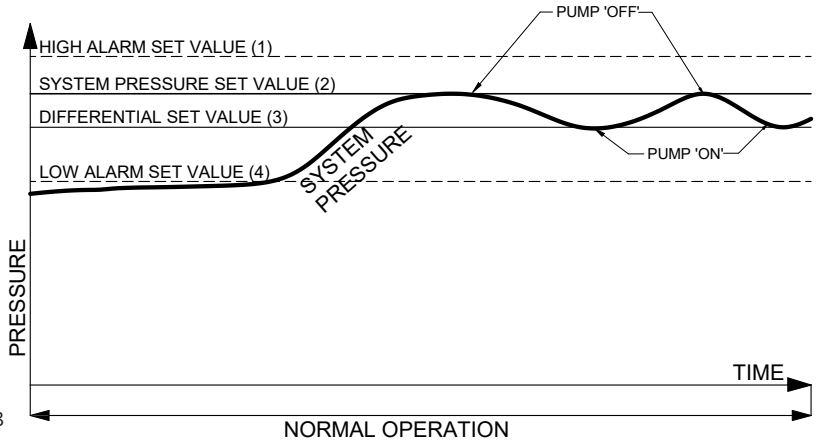

Fig. 18
<p>P1 System pressure (2) see Fig. 18</p>	<p>Sets the required system pressure. Set in 0.1 bar increments up to the maximum set value for the SPU model. SPU 130 & 230, 4.0 bar max.</p>
<p>P2 Differential pressure (3) see Fig. 18</p>	<p>Sets the pressure the SPU will turn on at as the system pressure falls. Relative to the set system pressure. Set in 0.05 bar increments below the System pressure (2), cannot be set above 0.1 bar below the System pressure (2).</p>
<p>P3 Hi Alarm (1) see Fig. 18</p>	<p>Sets high system pressure alarm. Set in 0.05 bar increments above the System pressure (2). Cannot be set below System pressure + 0.5 bar. Alarm auto resets when system pressure is reduced below alarm level.</p>
P4 Lo Alarm (4) see Fig. 18	Sets low system pressure alarm. Set in 0.05 bar increments below the System pressure (2) – Differential pressure (3) – 0.05 bar. Alarm auto resets when system pressure is increased above alarm level
During normal operation the SPU will monitor the system pressure and re-pressurise the system if the system pressure drops below the system pressure – differential pressure. See Fig. 18.